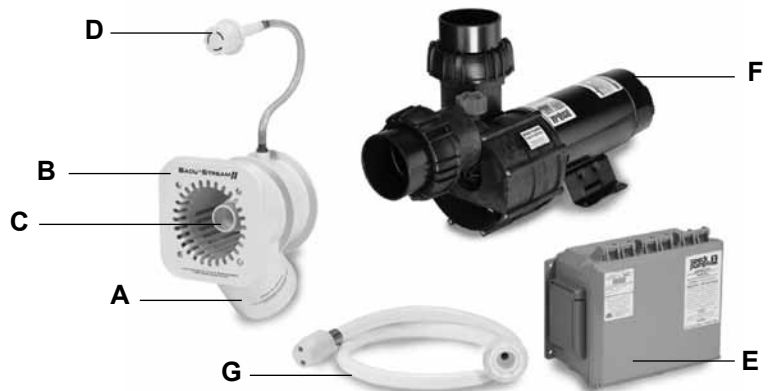

Figure 1
1. Upon receipt of the swimjet system, check the cartons for damage. Open each carton and check the pump(s) (F), jet housing(s) (A), and control box (E) for concealed damage, such as cracks, dents, or a bent base. If damage is found, contact the shipper or distributor where the swimjet was purchased.
2. Inspect the contents of each carton and verify that all parts are included. All parts are manufactured of corrosion-resistant material and combined in one single housing (two or three single housings for multi-jet systems) which can be installed in pools of any size and shape. *(See Figure 1)*